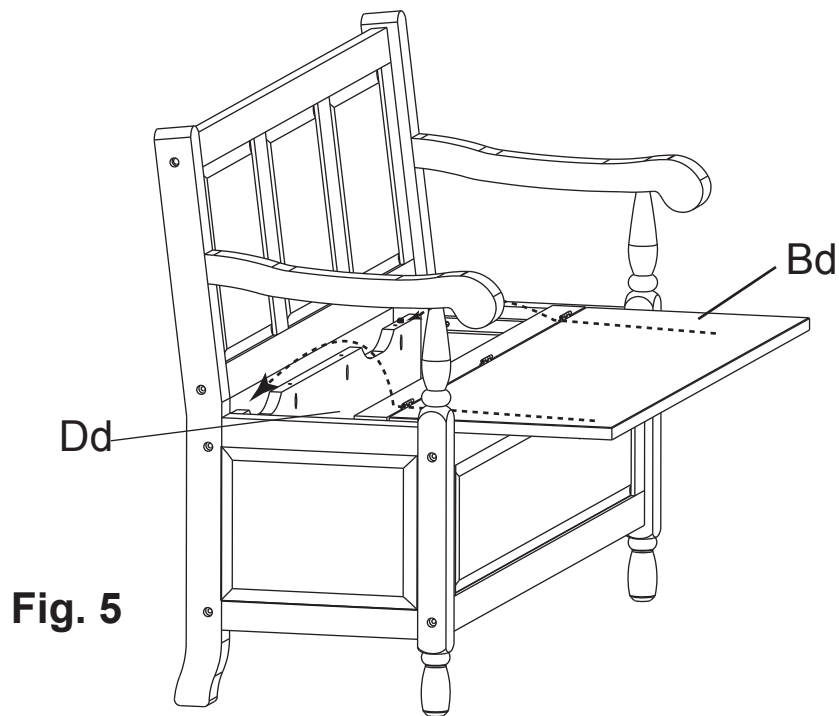

Fig. 5
5. Spread a thin layer of glue in the two dowel holes on the bottom of the Seat Assembly (Bd). Place the Seat Assembly over the dowels on the Back Panel (Dd) and quickly wipe away excess glue with a damp rag. See Figure 5.